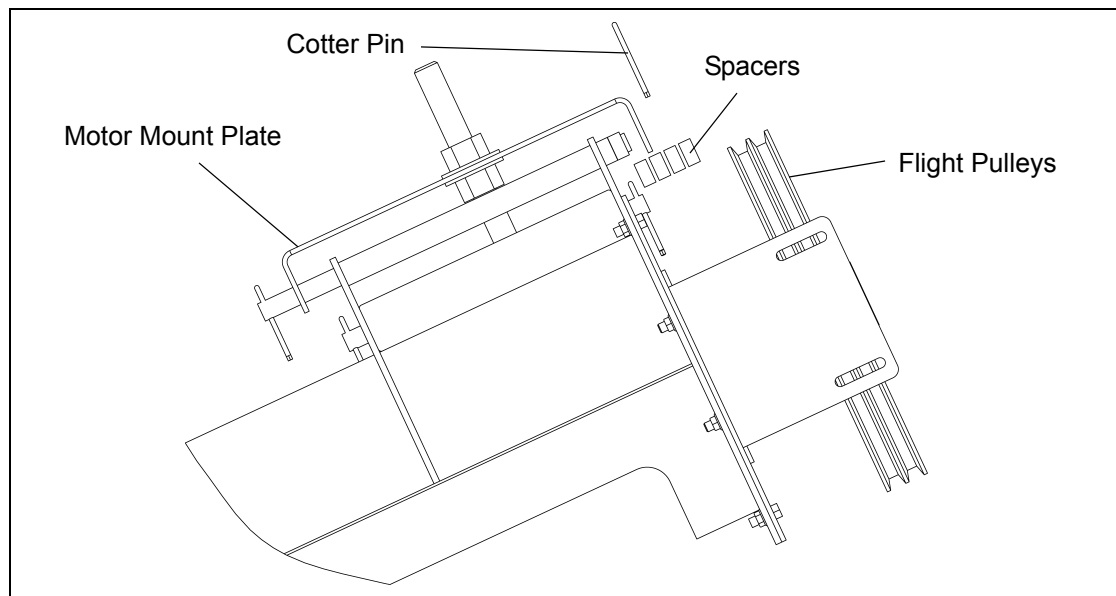

Figure 4T
2. Install pulley onto motor shaft making sure that it is aligned with the flight pulley. It may be necessary to move spacers to gain shaft alignment (See Figure 4T).